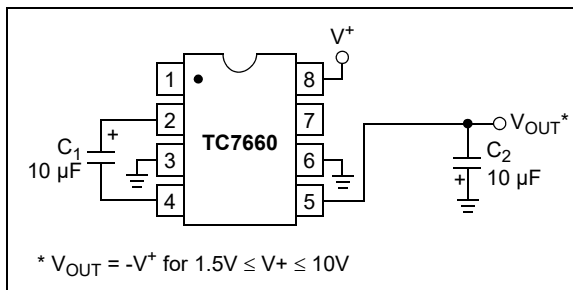

FIGURE 5-2: Simple Negative Converter.
Figure 5-2 shows typical connections to provide a negative supply where a positive supply is available. A similar scheme may be employed for supply voltages anywhere in the operating range of +1.5V to +10V, keeping in mind that pin 6 (LV) is tied to the supply negative (GND) only for supply voltages below 3.5V.
The output characteristics of the circuit in Figure 5-2 are those of a nearly ideal voltage source in series with a 70Ω resistor. Thus, for a load current of -10 mA and a supply voltage of +5V, the output voltage would be -4.3V.